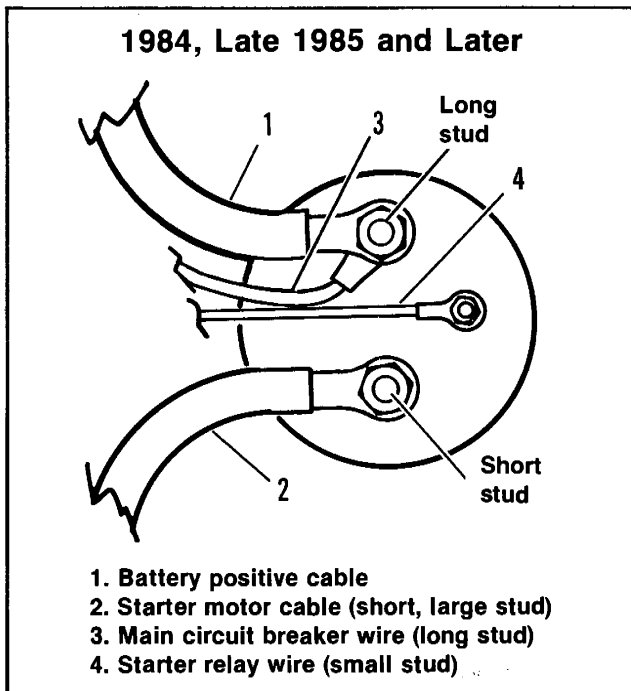

Figure 5-10. Solenoid Connections - FLT Models
1. See Figure 5-10, 5-11 or 5-12. Disconnect the cable from the short, large stud and the wire from the small terminal.
- See Figure 5-10, 5-11 or 5-12. Remove the nuts and disconnect the wires and cables from the solenoid terminals.
4. See Figure 5-10, 5-11 or 5-12. Connect the cables and wires to the solenoid terminals as shown in the appropriate illustration. Secure wire or cables with terminal nuts.